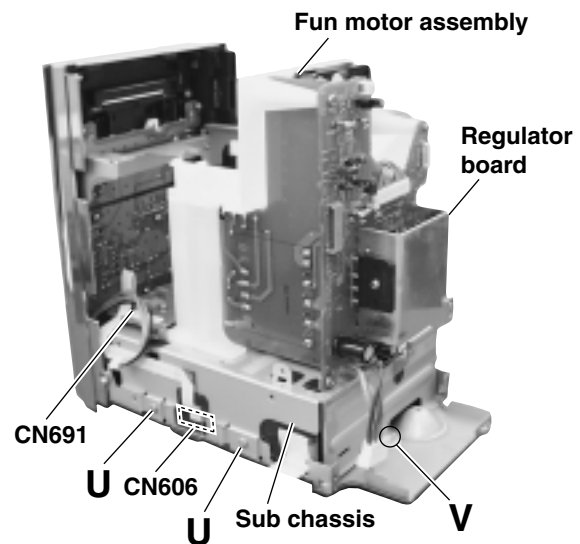

Fig.13
■ Removing the CD mechanism assembly (See Fig.13 and 14)